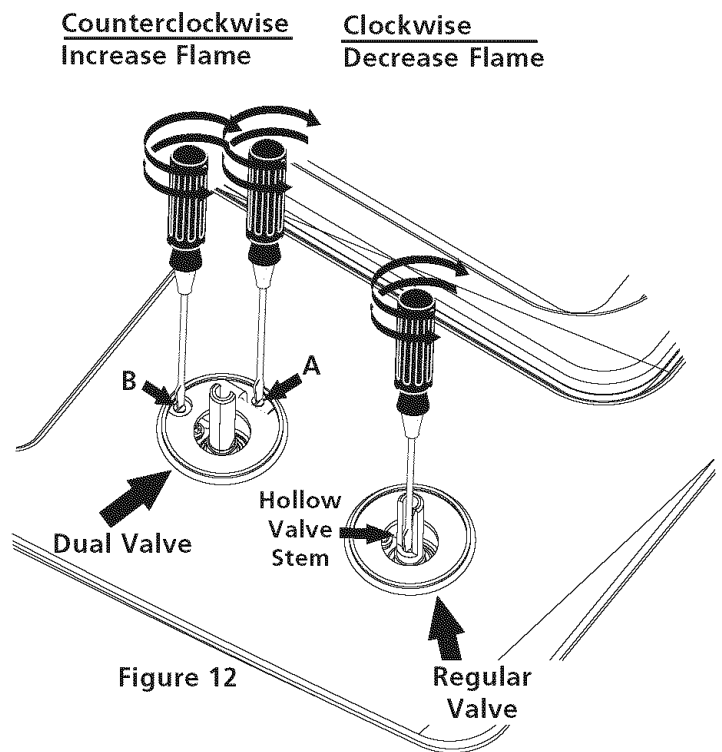

Figure 12
4. Adjust the "low" setting for regular surface burner valves (Figure 12)
5. Adjust the "LOW" Setting of the Dual Burner Surface Valve (Figure 12)